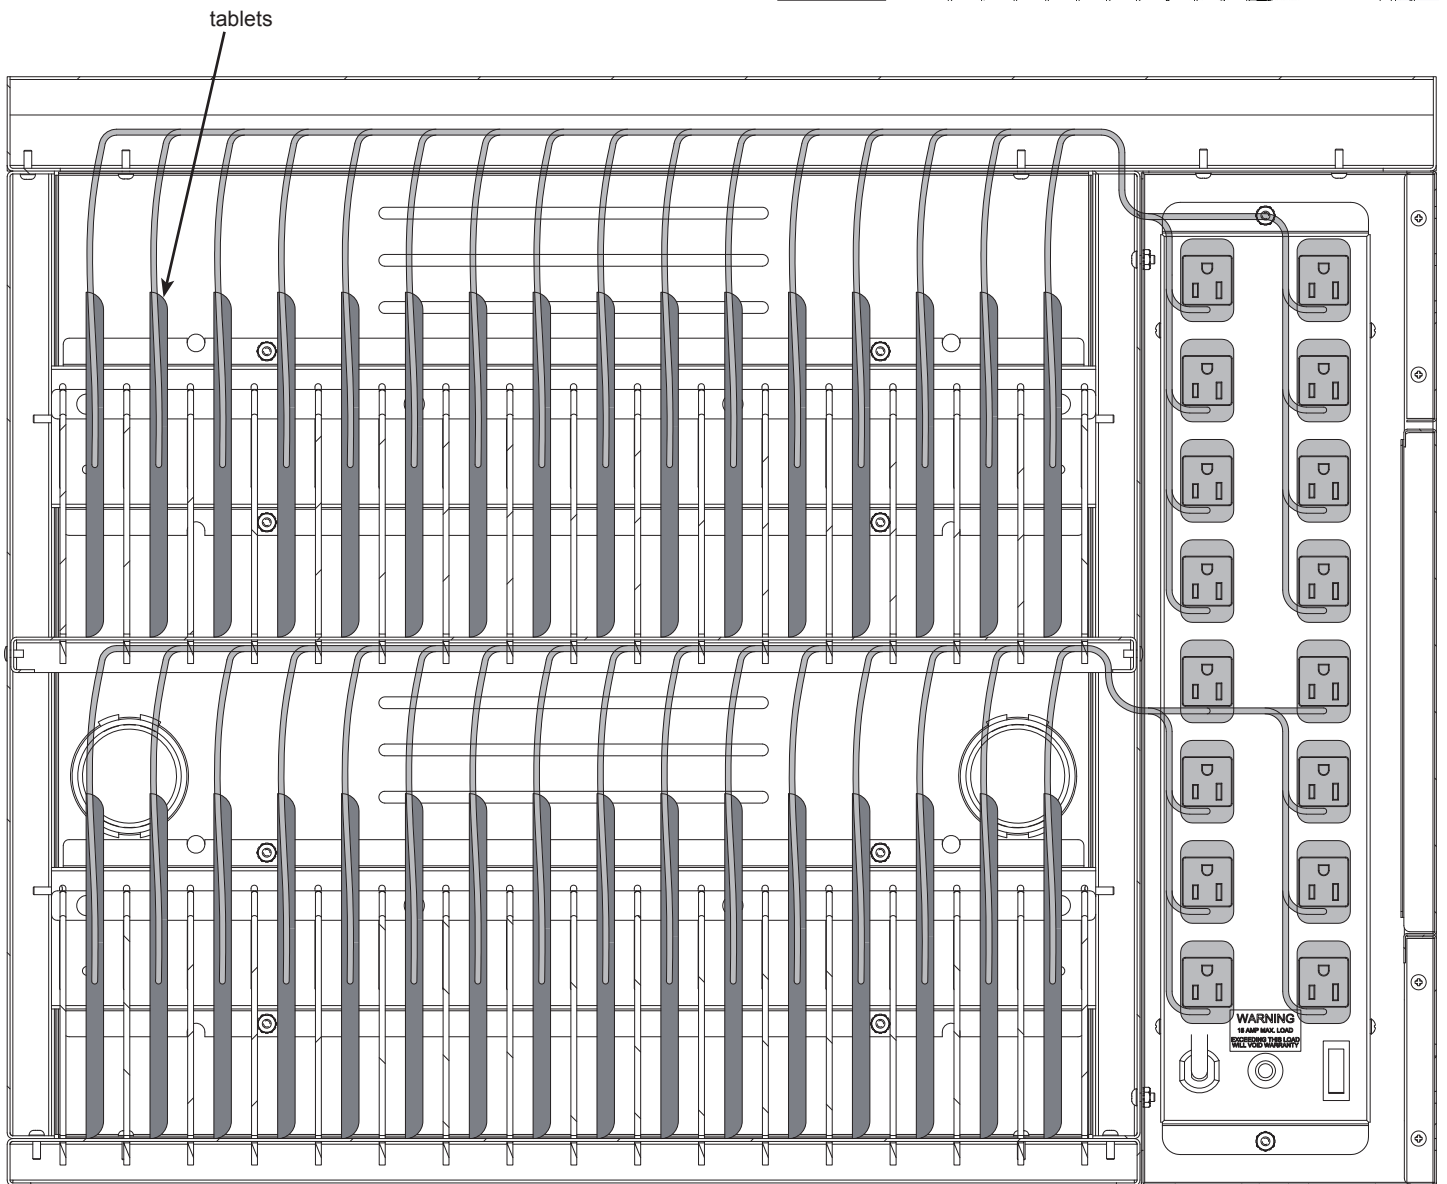

Figure 3A
Tablet power cords need to be 3' or longer to use the recommended cord management method shown in the wiring diagram below. **Figure 3A.**
1. Use the cord management wraps above each tablet storage slot, wrap excess cord while leaving enough cord length to drop down to each tablet. **Figure 3A-B.**